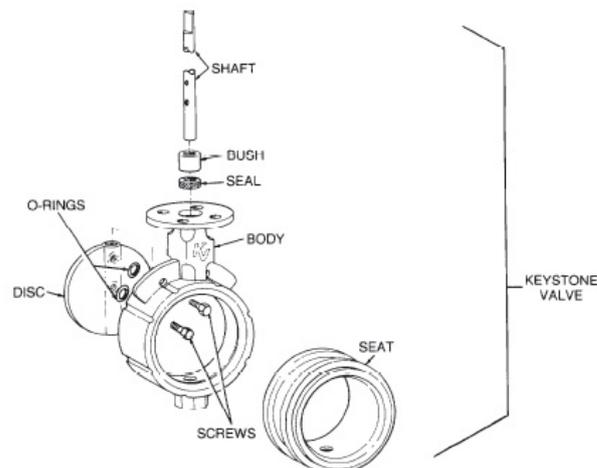

Figure 40 Keystone Valve – Exploded View
- a. Remove the screws securing the disc to the shaft (Figure 40) and discard the O rings.